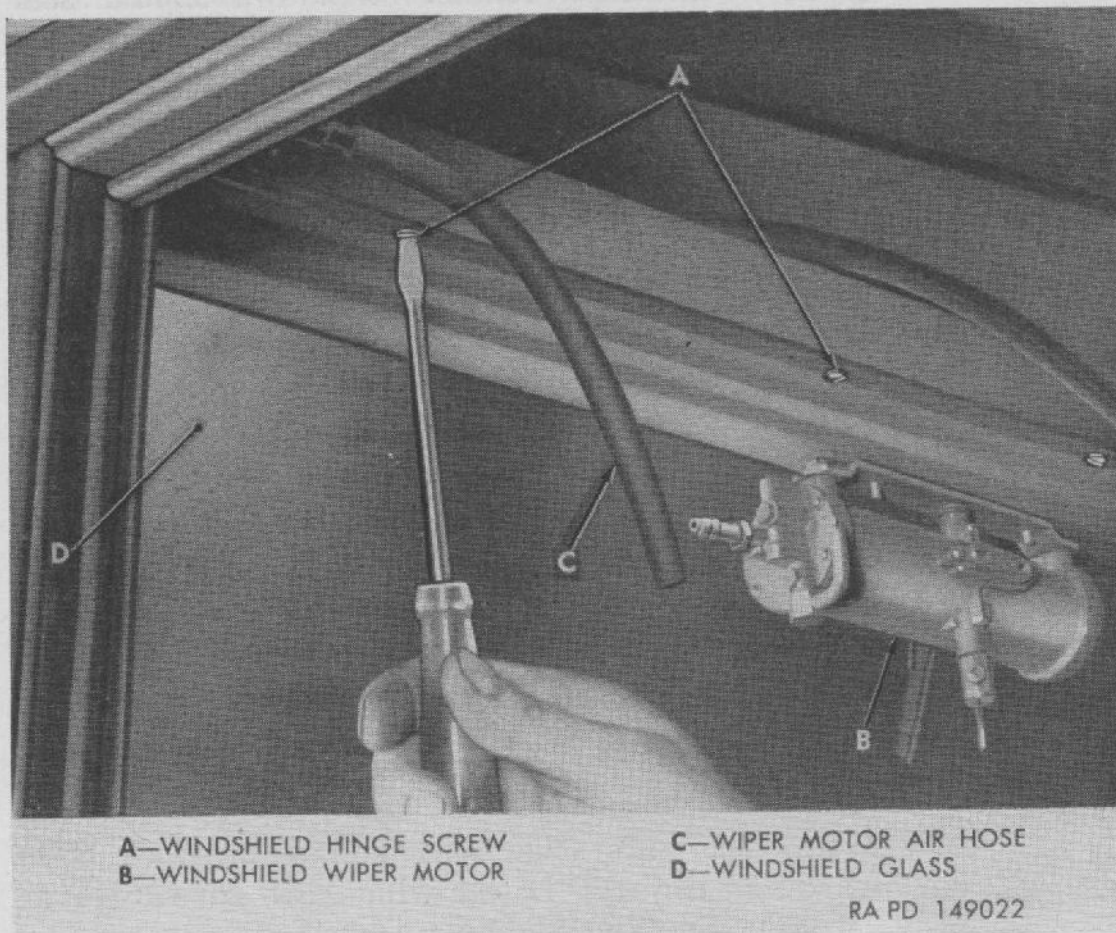

Figure 169. Removing windshield frame and glass.
- (1) *Disconnect adjusting arms at brackets.* Loosen clamp screw at each side of section which is to be opened. Remove two screws which attach adjusting arm to brackets. Disengage adjusting arms from brackets and remove.
- (2) *Remove wiper motor.* Remove windshield wiper blade, arm, and motor, if desired, (par. 272). Otherwise disconnect air supply hose from wiper motor.
- (3) *Remove windshield frame and glass assembly.* While supporting windshield, remove seven screws and washers which attach upper hinge strip to tubular outer frame (fig. 169). Remove frame and glass assembly from tubular outer frame.